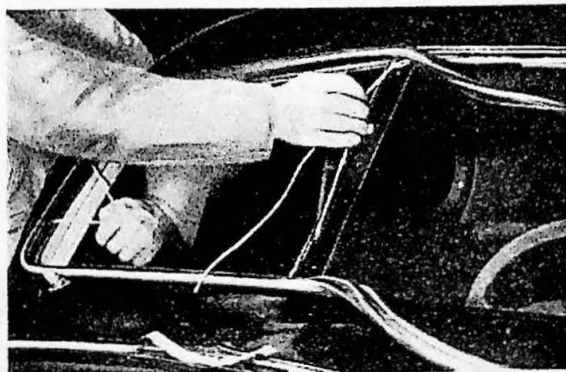

Fig. 28.
3. Lay the pane with the rubber weatherstrip in the opening and push it firmly against the body. Use the other hand to pull the cord so that the edge of the rubber weatherstrip comes into its place. See Fig. 28.